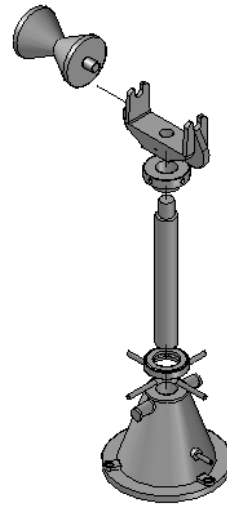

Figure 12-26 Assembly after reducing the gap
4. Similarly, drag other components to reduce the gap. The exploded state of the assembly, after reducing the gap, is shown in Figure 12-26.